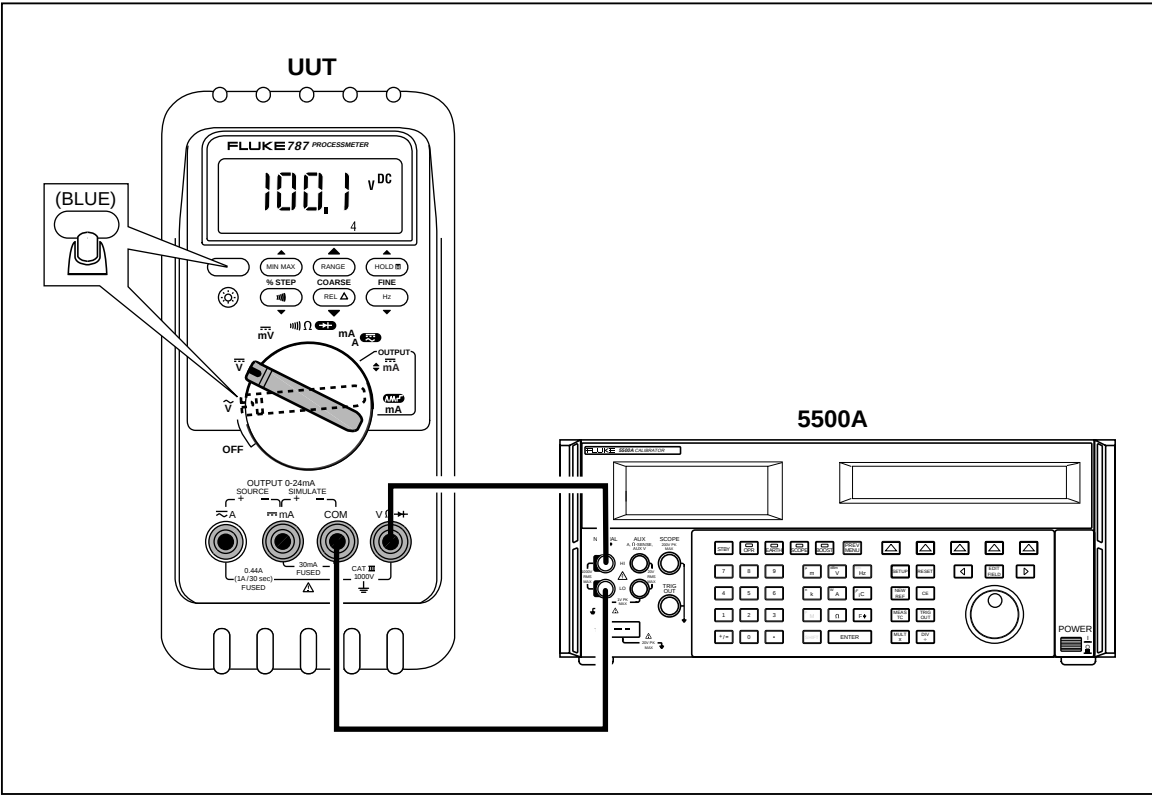

Figure 10. AC/DC Voltage Measurement Test Connections
3. Connect the calibrator to the COM and $V\Omega \rightarrow$ terminals on the UUT as shown in Figure 10.